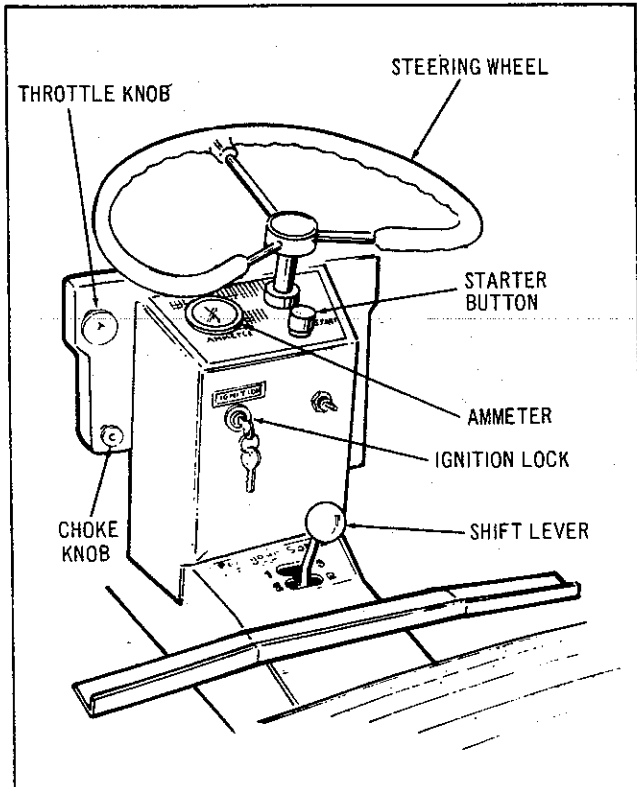
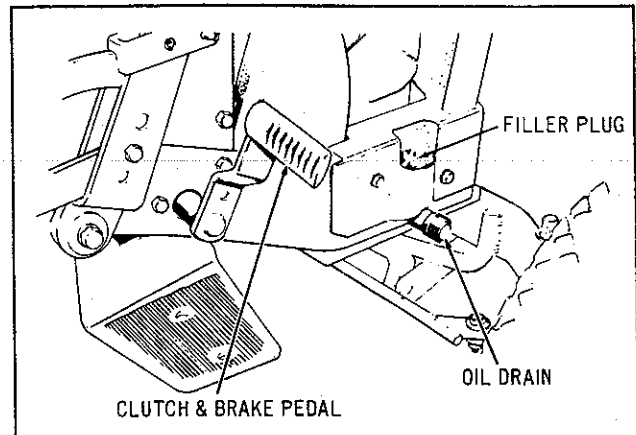

FIG. 9
FIG. 11
Engine - Service Air Cleaner and Crankcase as recommended in Engine Service Manual. Be sure Air Cleaner is maintained in clean condition. Never use oil in Crankcase for more than 25 hours of operation. See Figure 11. CLEAN AIR AND CLEAN ENGINE OIL WILL GIVE LONG TROUBLE FREE OPERATION. DIRT WILL RUIN YOUR ENGINE IN A SHORT TIME. A funnel and extension are included with the tractor for use in changing oil.
1. Place Gear Shift Lever in neutral position. See Figure 9. (Be sure tractor is on level ground and will not roll away in neutral. Apply parking brake.)
2. Pull Choke Knob out. See Figs. 9 & 10.
3. Set Throttle Lever in mid position and turn Ignition Key to "ON". See Figure 9. Press starter button to start engine and release. As engine warms up, Push Choke Knob in. Pull Throttle Knob out to desired position and turn to lock.
To place Gear Shift in desired Gear Range, depress the combination Brake and Clutch Pedal located on right hand side of tractor. See Figure 11. When pedal is depressed move Shift Lever to desired position (See Figure 9) and gradually release pedal until clutch is engaged. When shifting from one range to another, pause briefly in neutral before completing shift. Set Throttle Lever to obtain desired speed. See Figure 9.